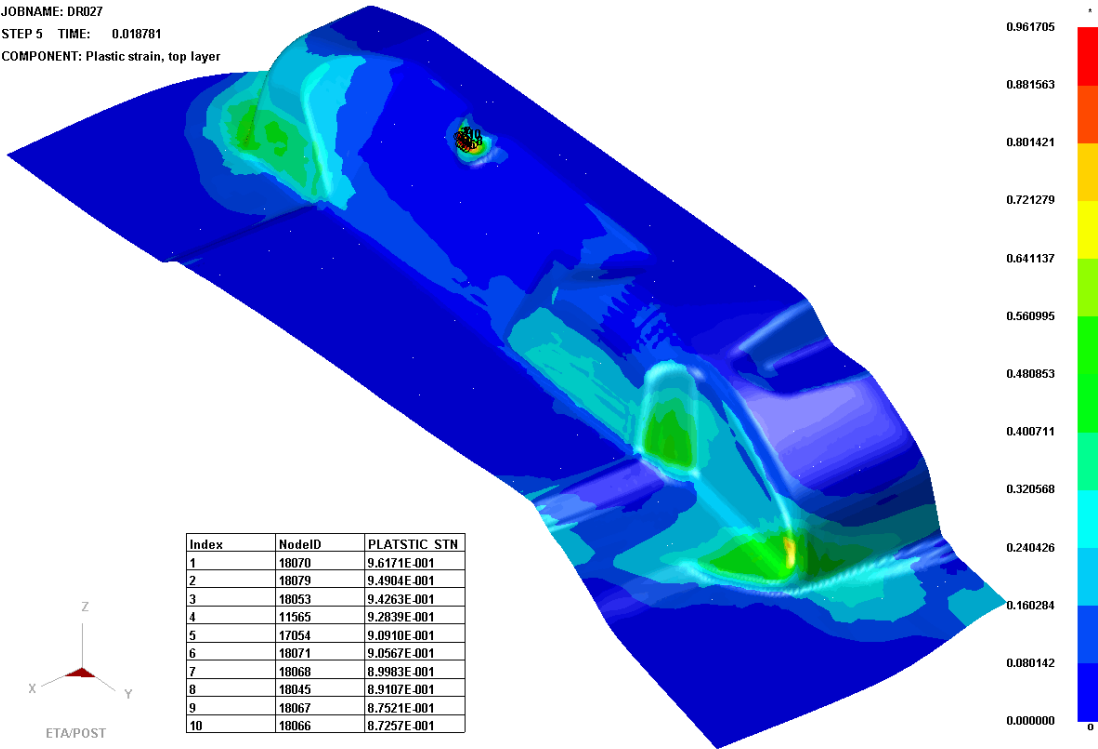

Figure 7.2.9 List Node Value
4. Once the nodes are selected, the highest 10 values are listed at the lower left corner of the GRAPHICS DISPLAY WINDOW as shown in Figure 7.2.9.